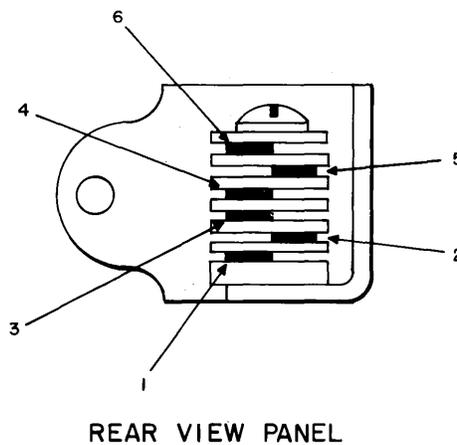

Fig. 4—547B Key Switch—Terminal Identification
circuit pack (CP)] and in Fig. 4 for the 547B key switches.
TERMINAL STRIP ROW (2.02)	INTERFACE DRIVER TERMINAL (Fig. 4)
(c) Connect terminal 1 to terminal 5 on each key switch (Fig. 4).
- (a) Connect terminal 5 (Fig. 4) of the left-most (viewed from front panel) key switch of each group to the terminal in row 7 (Fig. 2) corresponding to the associated data set 115A.
**2.15** When permission is given to proceed, disconnect the existing alarm loop circuits and connect (***wrap and solder***) the legs to terminals 3 (tip) and 4 (ring) of the key switches (Fig. 4) as given in local instructions.
- (c) Connect terminal 1 to terminal 5 of new key switch (Fig. 4).
- (b) Connect a jumper between terminal 2 of key switch (Fig. 4) to left (viewed from front panel) of the switch associated with the leg being deleted to terminal 6 of key switch to right of the switch associated with the deleted leg.